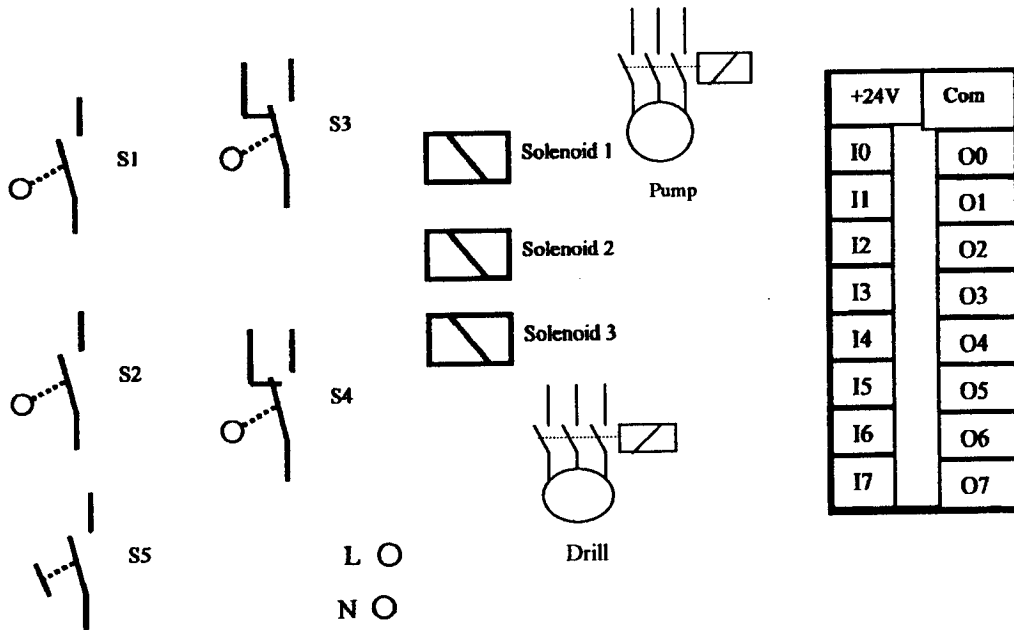

figure 2: physical connection of inputs/outputs
b) For the above question complete the figure below (figure 2) by drawing the necessary connections: (5 marks)